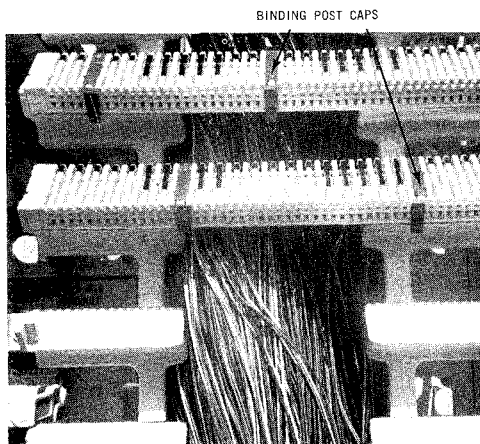

Fig. 14
7.01 When cable pairs are used for special services, it will be necessary to identify and protect the circuit by placing binding post caps over the binding posts at both appearances in the JWI. (Fig. 14.)